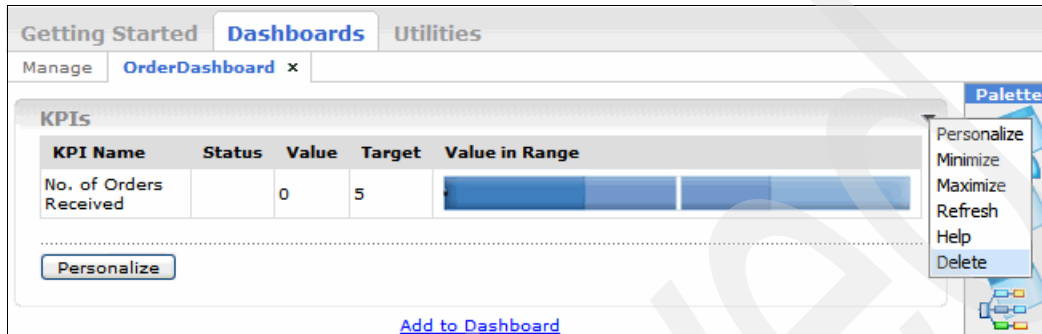

Figure 6-72 Removing the KPI
1. Click the menu icon in the upper right corner of the KPI portlet and select **Delete** (Figure 6-72).